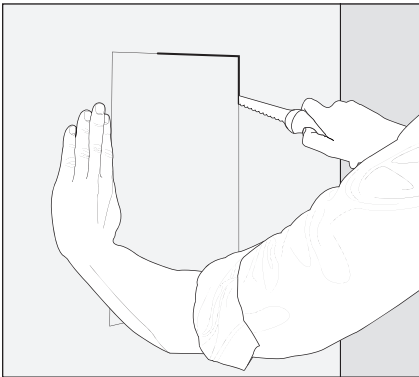

Fig. 2c
- 3) Cut a hole as indicated (Fig. 2c).